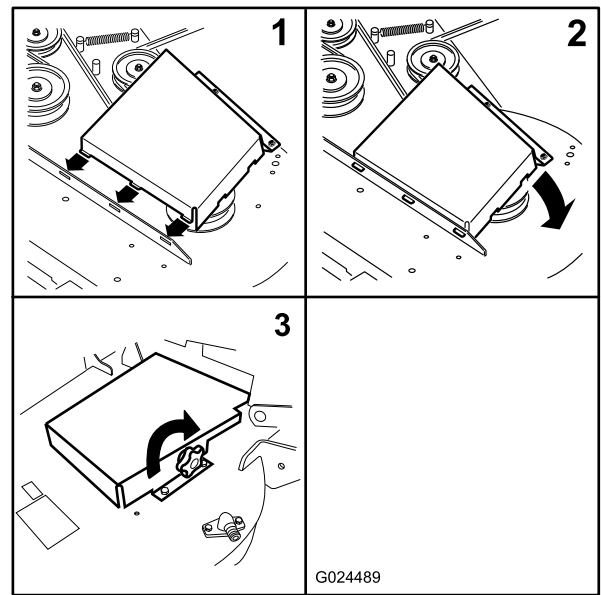

Figure 64
4. Install the belt covers (Figure 64).